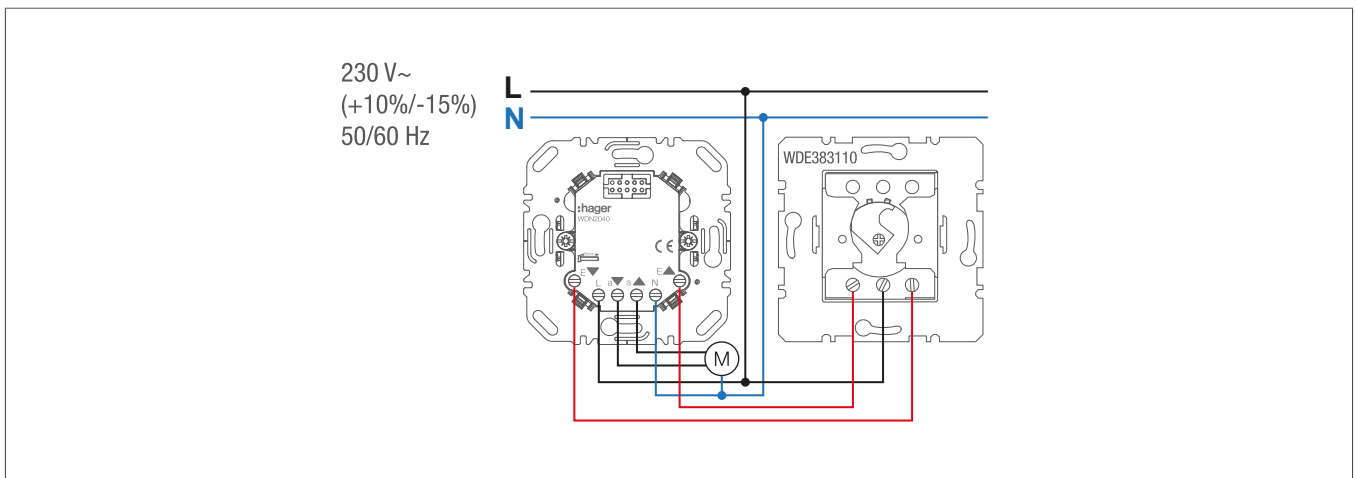

Fig. 4: Individual control with an extension unit for the key push-button for blinds
- Connect the individual control unit with the extension unit for the key push button for blinds according to the connection diagram (Fig. 4).